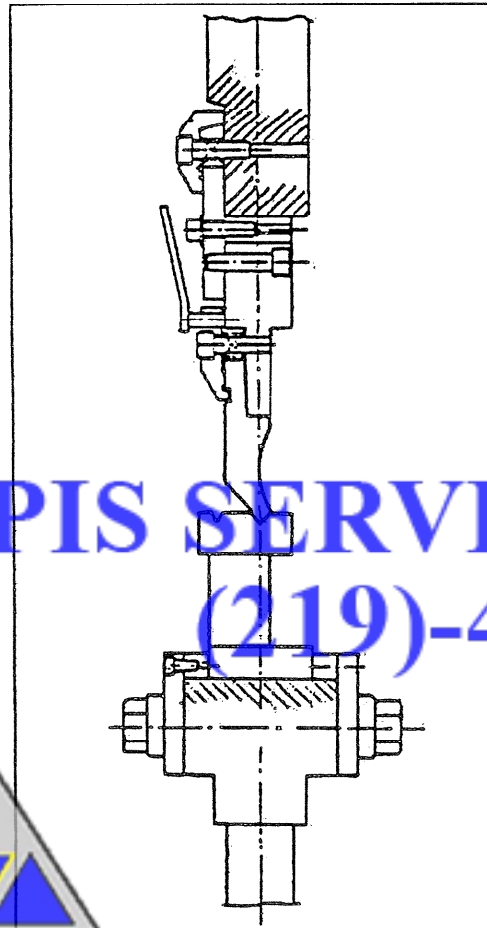

Figure 5.11
- 5) Define the stacking value Y consisting of: lower tools + punch length + 3 mm (Fig. 5.11).